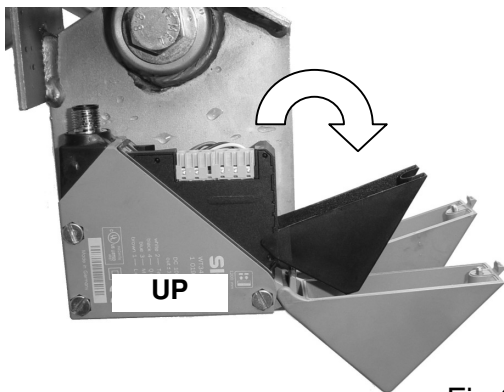

Fig 23
1. Loosen the single screw on top of each sensor and flip open the access covers (see figure 23).